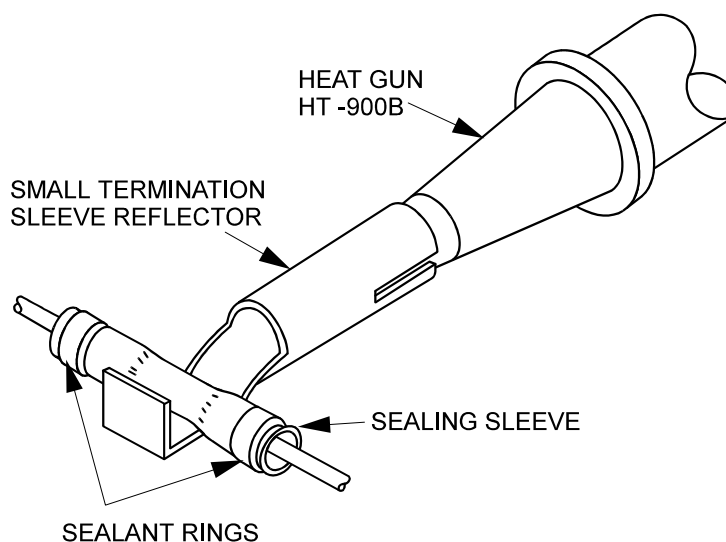

Figure 6-15
o. Shrink sealing sleeve using a heat gun with a small termination sleeve reflector as shown in Figure 6-15. Start by shrinking the middle then heat towards each end until sealant melts and begins to flow out of both ends. Allow time for sleeve to cool before handling.